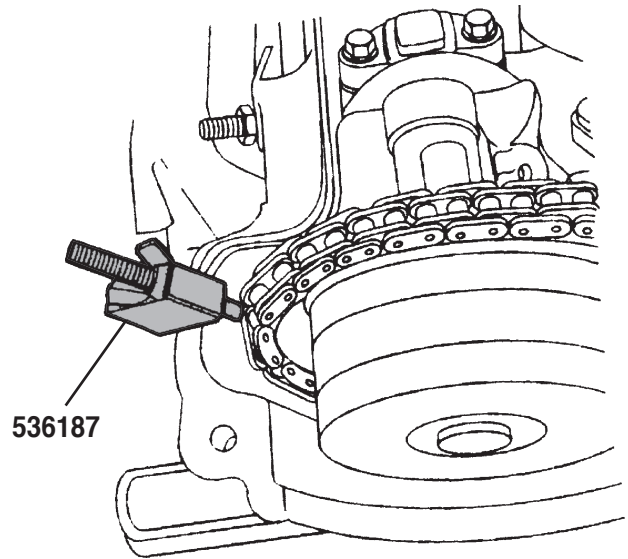

Figure 1
1. To retain the timing chain, install No. 526187 on the exhaust camshaft side of the timing chain assembly (see Figure 1). Hand-tighten the nut firmly.